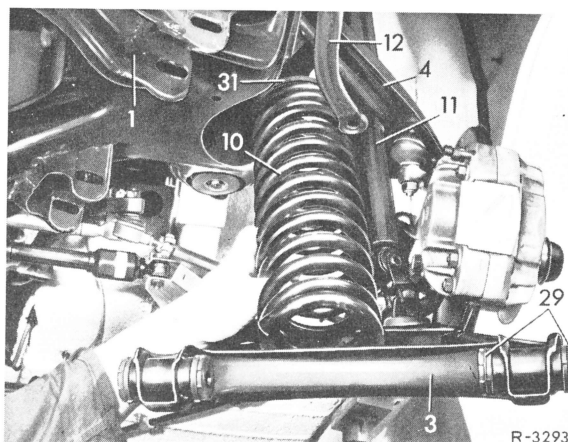

Fig. 4
5 Remove cradle (44), swivel control arm forward and remove front spring with rubber ring (31) (Fig. 4).